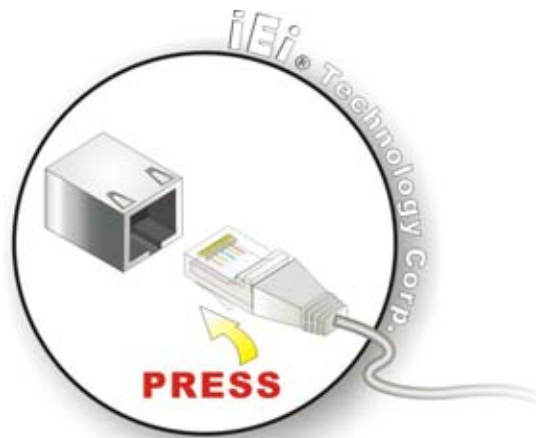

Figure 2-2: LAN Connection
- Step 2:** Align the connectors. Align the RJ-45 connector on the LAN cable with one of the RJ-45 connectors on the bottom panel of the IMK-570. See **Figure 2-2**.